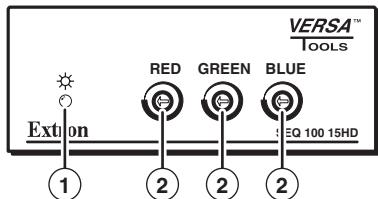

Figure 14 — SEQ 100 Skew Equalizer front panel
- ① Power LED — This front panel LED (figure 14) lights to indicate that the SEQ 100 Skew Equalizer is receiving power.